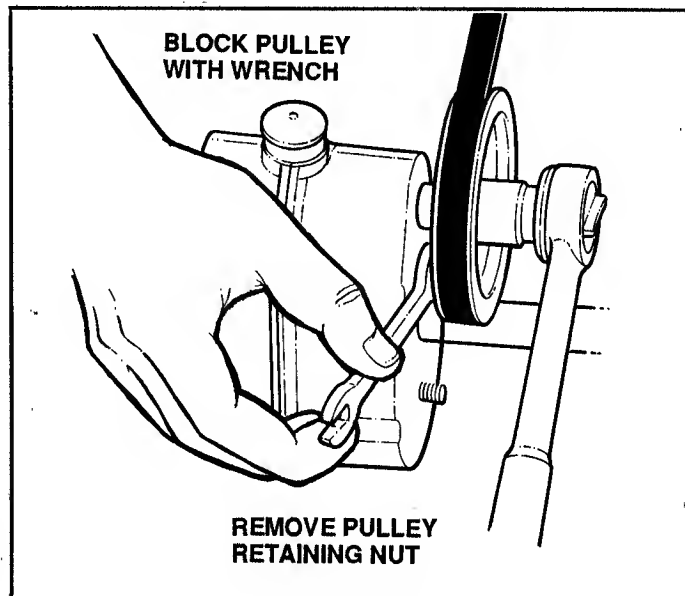

FIGURE 2.19
6. Remove pulley retaining nut. See Figure 2.19.